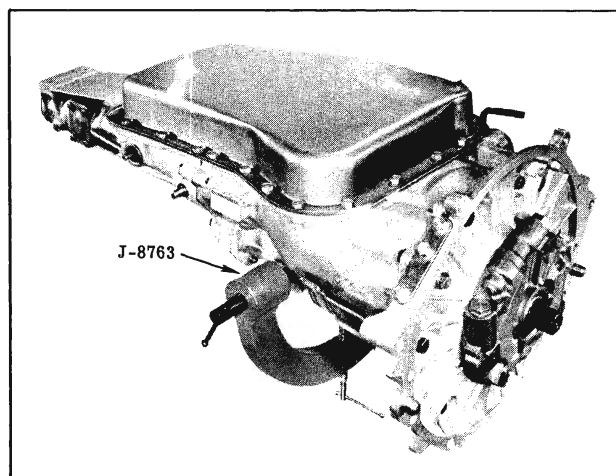

Fig. 3-19 Transmission Holding Fixture
2. Place transmission and Holding Fixture into Bench Adaptor J-6115-A, then rotate transmission so that oil pan is up. (Fig. 3-19)